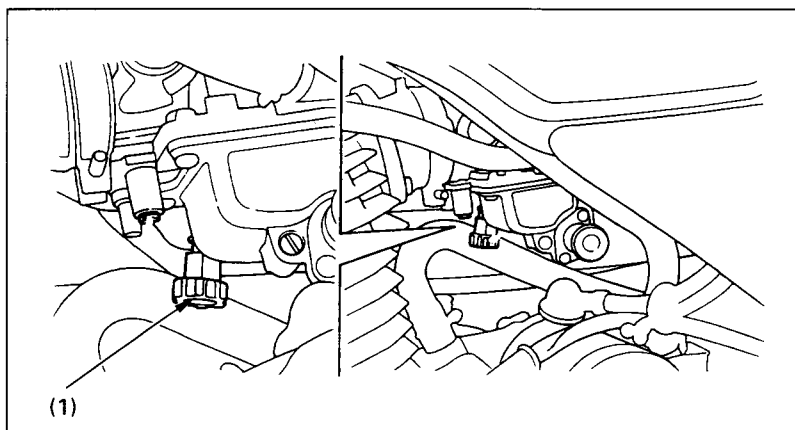

Fig. 4-10 (1) Throttle stop screw
2. Adjust idle speed by turning the throttle stop screw (Fig.4-10).